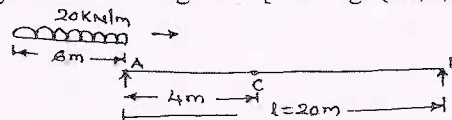

Fig.Q.9(b)
- b. A simple girder of 20m span is traversed by a moving udl of length 6m with an intensity of 20kN/m from left to right. Find the maximum bending moment and maximum positive and negative shear force at section 4m from left support also find the absolute maximum bending moment that may occur anywhere in the girder. [Ref.Fig.Q.9(b)] (16 Marks)